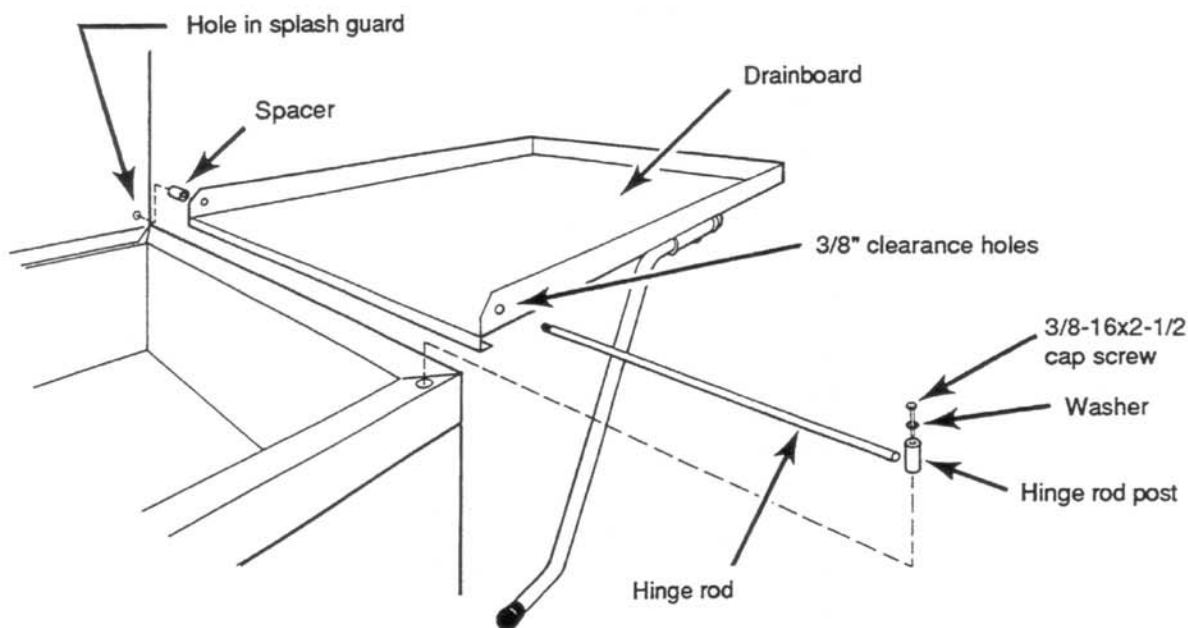

Fig. 7
6. Assemble the drainboard. See Fig. 7. The drainboard can be installed so that it extends to the right or the left of the fryer.